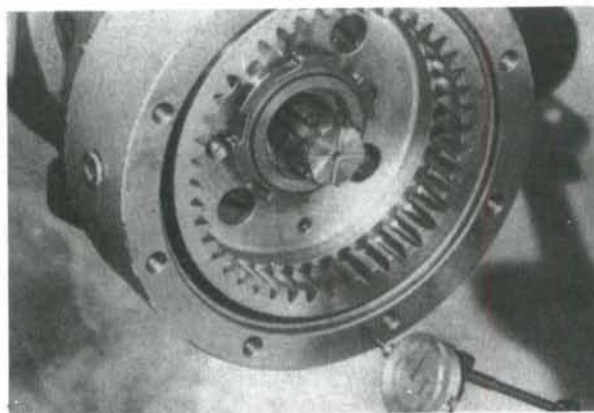

Fig. 10—To set stub axle bearing preload, mount a dial indicator so probe contacts face of wheel hub. Measure end play and refer to text.
**11. WHEEL HUB BEARING PRELOAD.** To set stub axle bearing preload, install shims (5—Fig. 7) having a total thickness of 2 mm (0.080 inch) next to spacer (6). Install planetary ring gear (3) and nut (1) minus tab washer (2). Using special spanner wrench (CAS-1607), tighten nut (1) to 203 N·m (150 ft.-lbs.) torque. Mount dial indicator so point of probe contacts outside face of hub. See Fig. 10. Measure and record amount of end play. Correct amount of bearing preload is 0.08-0.13 mm (0.003-0.005 inch). Subtract shims equal to measured end play plus 0.10 mm (0.004 inch) from previously installed shim pack to obtain correct bearing preload.